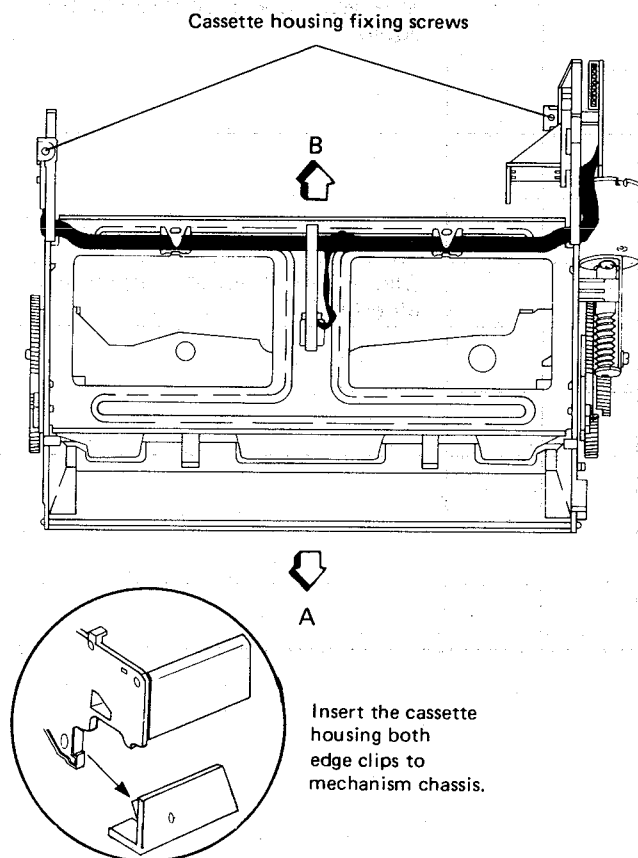

Figure 8.
4. Shift the cassette housing toward the arrow \Rightarrow B direction shown in Fig. 8 and take it out upwards.